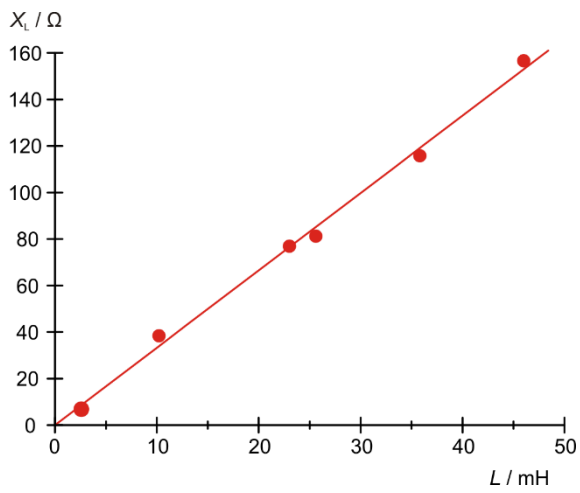
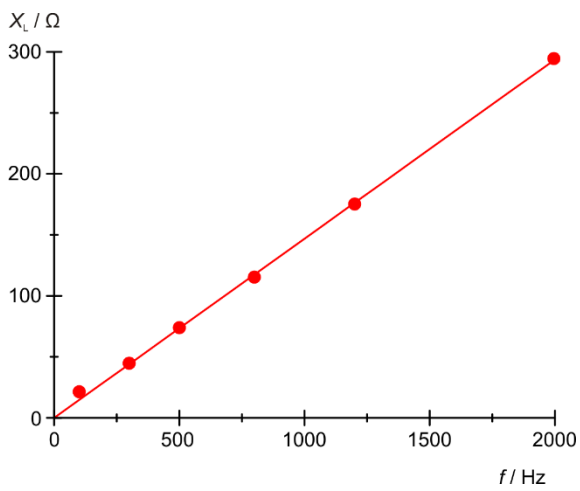

Fig. 4: Inductive impedance  $X_L$  as a function of inductance  $L$ .
Fig. 5: Inductive impedance  $X_L$  as a function of frequency  $f$ .
- Plot the inductive impedance values  $X_L$  against inductance (Table 1, Fig. 4) and frequency (Table 2, Fig. 5).